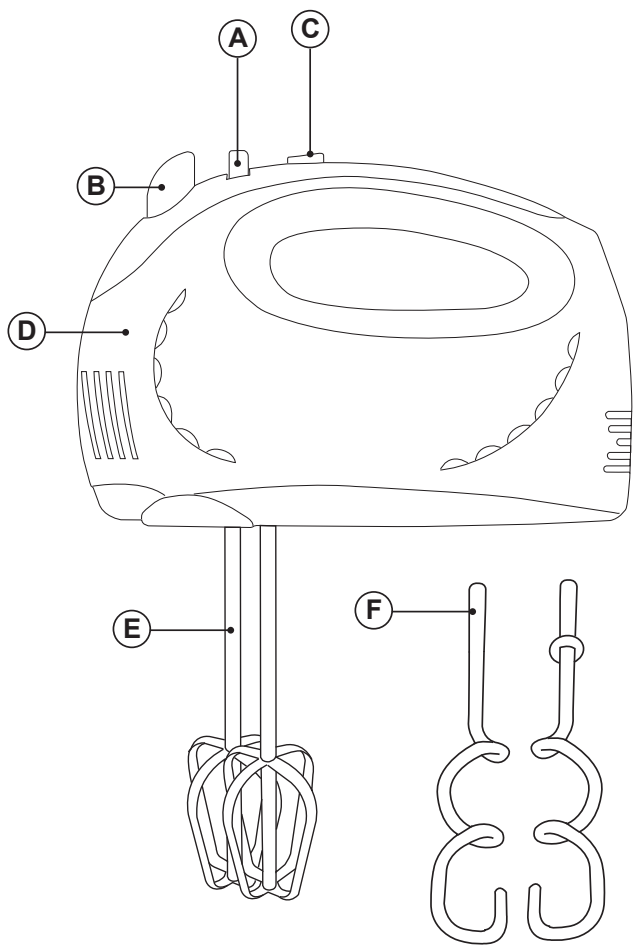

Fig.1
- . Acoplar el accesorio (E, F) que desee utilizar al cuerpo motor. (Fig.1).
- . Poner el aparato en marcha, accionando el mando selector de velocidades (A).
- Place the accessory (E, F) you want to use to motor body accordingly. (Fig.1).
- Turn the appliance on, by using the speed selector control (A).